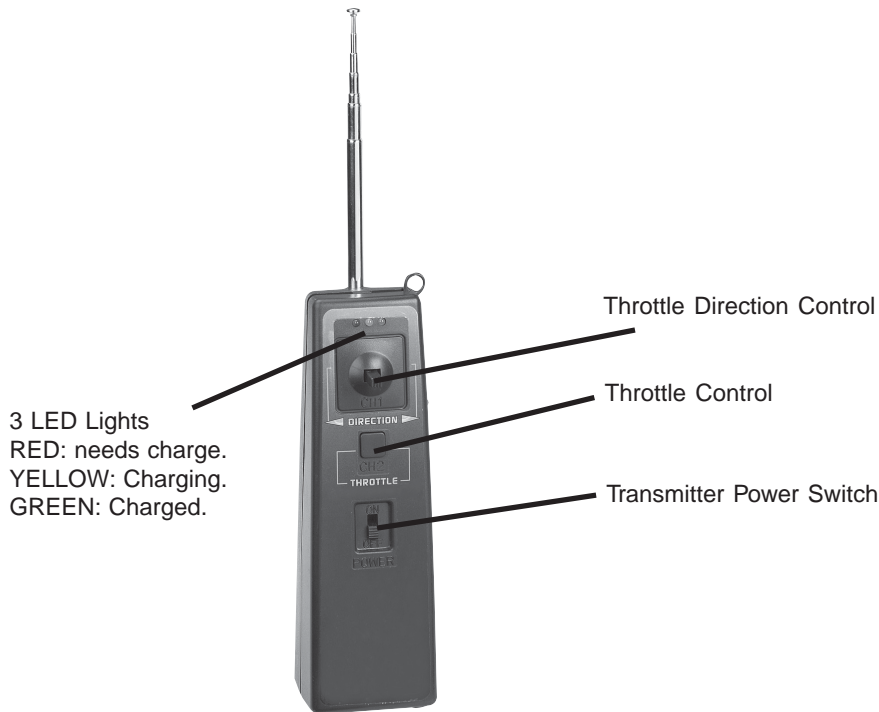

Figure 7
Controls: This Airplane is intended for straight, level flight while allowing turns to the left and right using the Throttle Control buttons. When ready for flight, turn the Transmitter Power Switch to ON (see Figure 7). To apply thrust, press down the Throttle Control button (see Figure 7). To increase speed, keep the Throttle Control button pressed and move Throttle Direction Control forward; to decrease speed, move it back and lessen pressure on Throttle Control button. (see Figure 7).
Turning: Ease the Throttle Direction Control (Figure 7) to the left and the Airplane will turn to the left. Ease the Throttle Direction Control to the right and the Airplane will turn to the right.
To charge Rechargeable Batteries: Turn the Transmitter Power Switch to OFF. Remove the Battery (8) through the bottom of the Fuselage (4). Plug the Female Battery Connector (3B) into the port on the back of the Transmitter/Battery Charger (15). See Figure 5. The Red LED will change to the Yellow LED while charging. When the Battery (8) is fully charged (3 to five minutes), the Green LED will come on steady. See Figure 7. Your Airplane is now charged and ready to fly again.